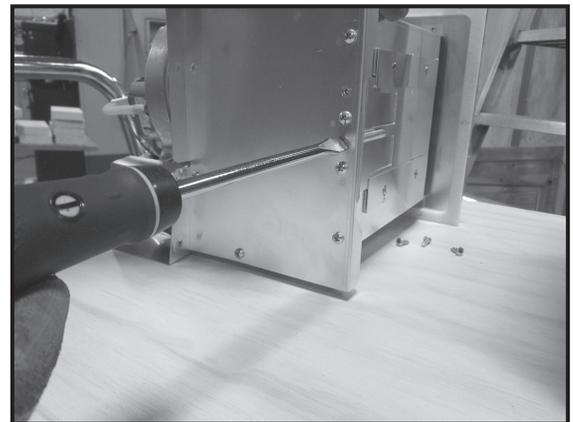

Figure 3.14
- To open the baffle, turn the adjustment bolt counter clockwise. See Figure 3.14.